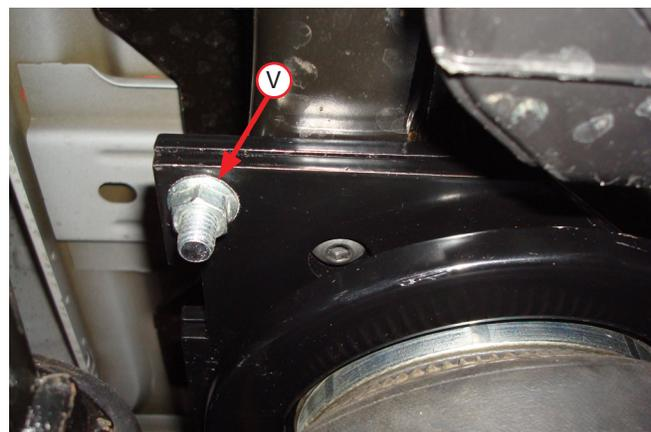

Fig. 37
3. Before proceeding, ensure the 90-degree fittings are pointing inboard toward the center of the vehicle. While raising the axle or lowering the body of the vehicle, align the previously installed upper frame bracket carriage bolts (including the one on the air spring bracket) with the air spring bracket/frame brace holes so the carriage bolts protrude. Cap all the carriage bolts with the 3/8" serrated flange lock nuts (V) (Fig. 37). Snug the bolts down first then torque to 31 lb.-ft. (42Nm).